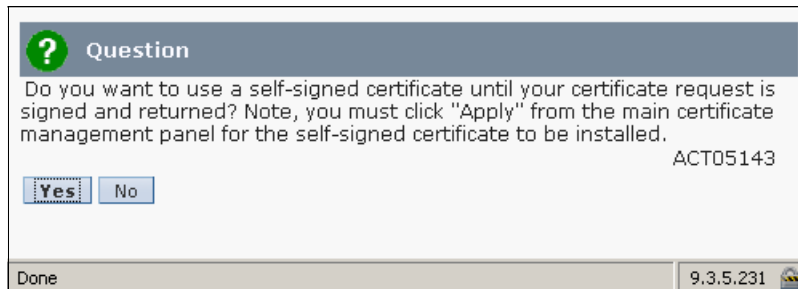

Figure 5-6 Creating a self-signed certificate while waiting on a signed certificate from a Certificate Authority
5. A message box displays asking for Save verification as shown in Figure 5-6. Click **OK** to save the Certificate Signing Request as a file. You are then prompted if you want to use a temporary self-signed certificate until your certificate is signed and returned.